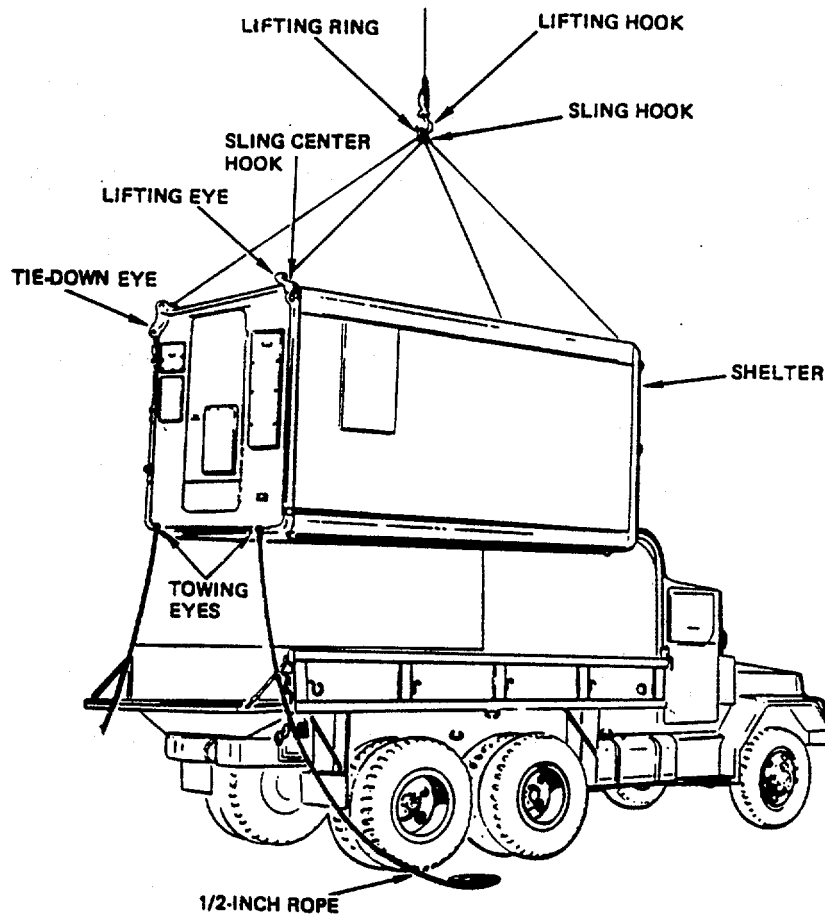

Figure 2-15. Loading Shelter
- (6) Coil and correctly stow main power cable.
- (7) Disconnect ground rod and wire from shelter and stow in proper location.
c. Loading Shelter. (See figure 2-15.)
- (1) Connect sling assembly to lifting eyes and lifting hook.
- (2) Tie a 1/2 inch (13 mm) rope at least 15 feet (4.6 meters) long to rear towing eyes.
- (3) Position a man on each rope.
- (4) Lower truck tailgate.